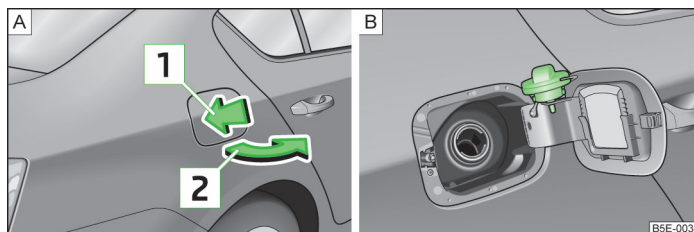

Fig. 178 Open fuel filler flap/fuel filler flap with cap unscrewed
The correct grades of fuel for your vehicle are stated on a sticker affixed to the inside of the fuel filler flap » Fig. 178 on page 212 - [B].
- Press on the fuel filler flap in the direction of the arrow [1] » Fig. 178 - [A].
- Remove the filler cap and place it into the hole on the fuel filler flap » Fig. 178 - [B].